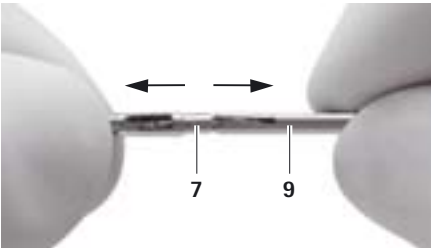

Fig. 4
- Remove inner tube 9 from working insert 7, see Fig. 4.